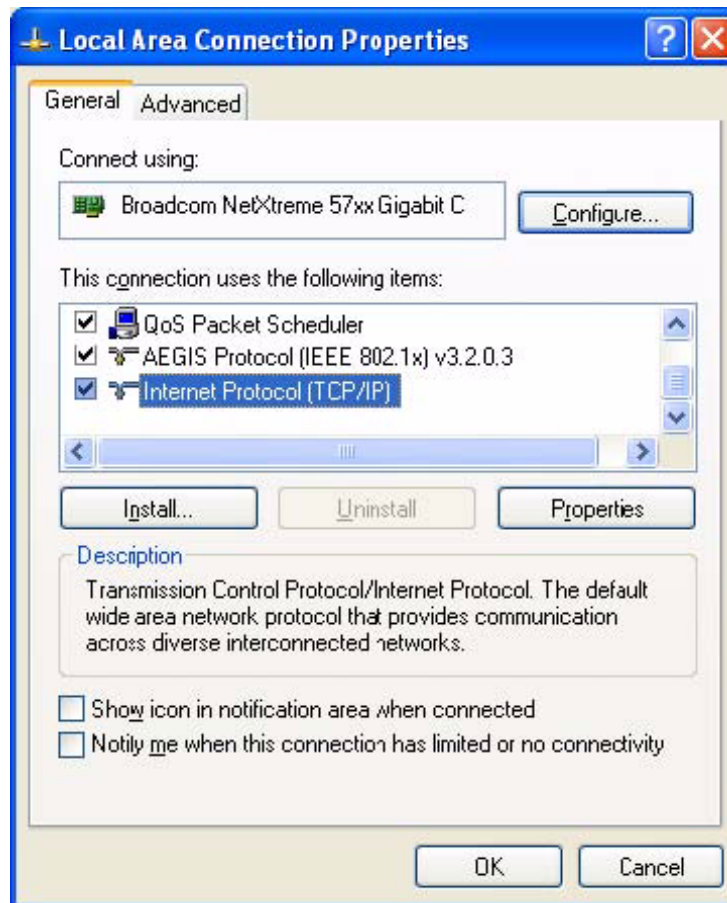

Figure F-1 Network Connections Properties screen
- b. Double click on Network card to which SS is connected and a screen as displayed in Figure F-1 appears.